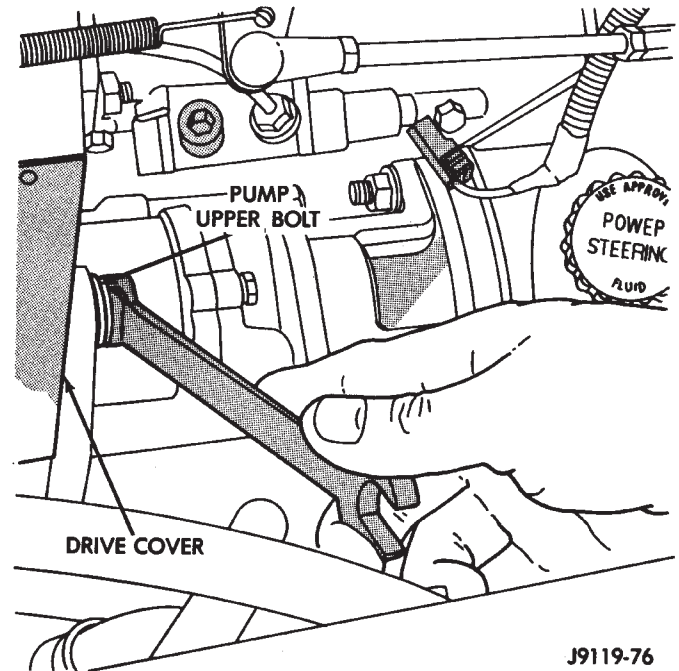

Fig. 109 Pump Assembly Upper Mounting Bolt
(8) Remove upper bolt that attaches pump assembly to engine block (Fig. 109).
(9) Remove pump assembly from vehicle.